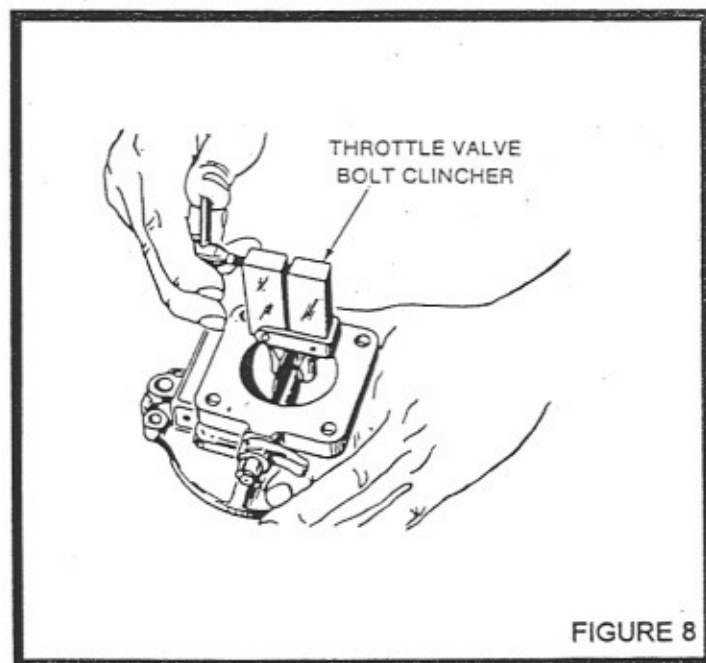

FIGURE 8
- 30) Install pump stem packing (16) and retainer (15) using tools M-123 and M-123A. Place tool M-123A packing pilot in place on the bottom side of throttle body; slip packing (16) in the cavity on top side. Place retainer (15) over packing and stake in place with tool M-123. Remove pilot.
- 31) Install venturi (43) using tool M-83. Place the venturi in position so that the notch in the side of the venturi will be in alignment with the nozzle and the legs engaged in the grooves in the throttle bore.
- 32) Install the economizer jet (45) if used. Exercise caution, so as not to damage or burr this jet since this can cause a change in flow. Install vent screen (42) if used.
- 33) Install idle drill plug (66) to 12-16 inch pounds with Loctite 222 or equivalent mild threadlock.
- 34) Install throttle shaft (34), throttle valve (33), and throttle valve screws (32). Run screws lightly into place, rotate the shaft to the closed position and tap the valve lightly with the screw driver blade to seat the valve in throttle bore. Hold the throttle valve closed and tighten the screws. Torque screw (32) to 10-15 inch pounds.
- 35) Safety the throttle valve screws in place with clinching tool M-109. See Figure 8. Carefully installed, the shaft will rotate freely from fully closed to wide open. Note: Certain carburetors do not use a wide open valve and you may notice that the valve is limited up to 15° from the fully open position. This is normal and an important part of the full throttle requirements.